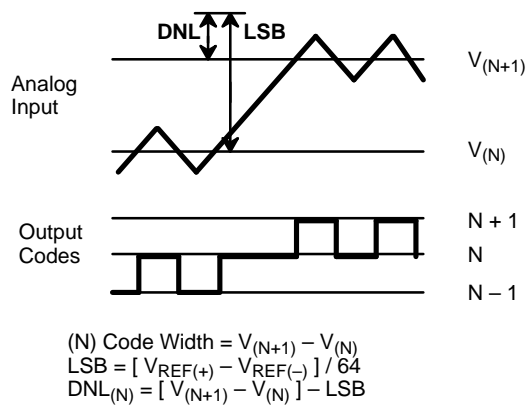
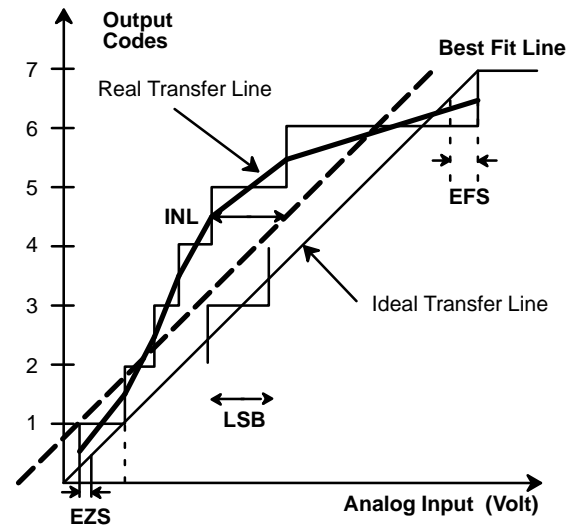

Figure 3. DNL Measurement
Figure 4. INL Error Calculation
- Tester measures code transitions by dithering the voltage of the analog input (V_{IN}). The difference between the measured and the ideal code width ($V_{REF}/64$) is the DNL error (Figure 3.). The INL error is the maximum distance (in LSBs) from the Best Fit Line to any transition voltage (Figure 4.). Accuracy is a function of the sampling rate (F_S).